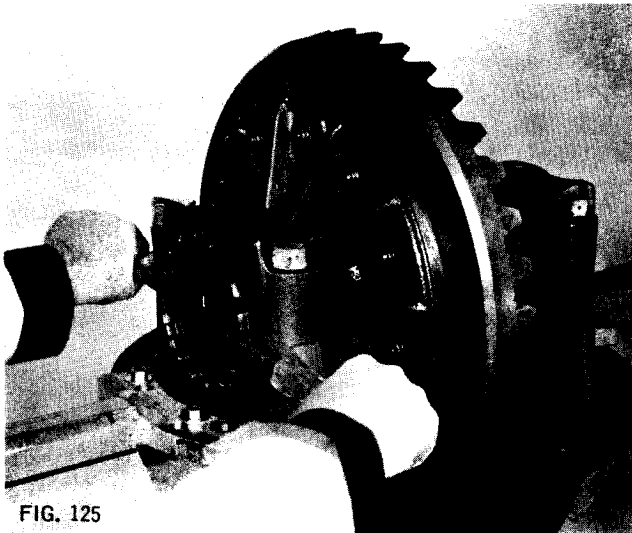
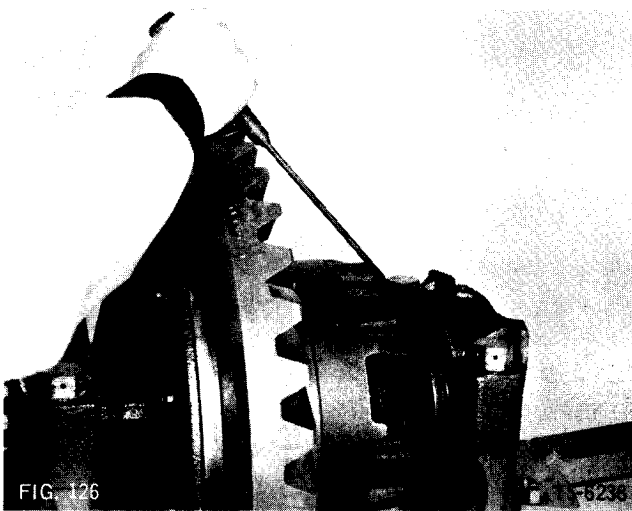

FIG. 125
FIG. 126
7. Tighten bearing adjusting nuts to adjust bearings to zero end play (Fig. 125). This condition may be checked with screwdriver as shown (Fig. 126). All bearing rollers must rotate as ring gear rotates, but it should not be possible to move bearing rollers sideways in cage when prying against them with screwdriver.